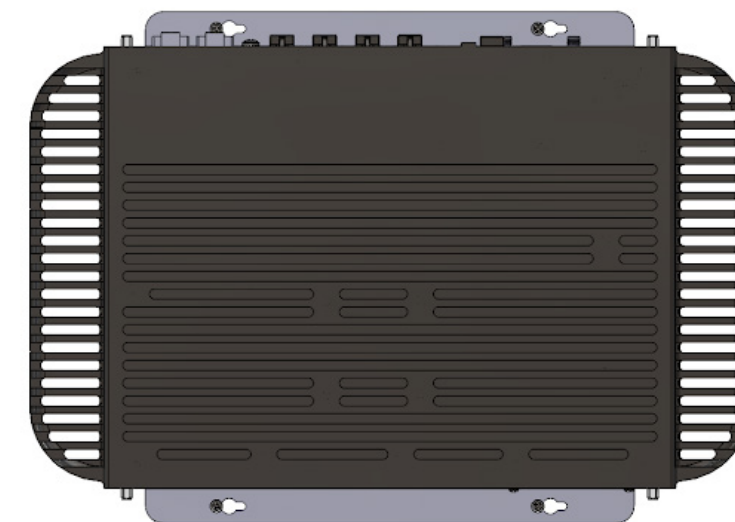

Figure 3
- 3 Attach the wall mount to the wall using four screws that are appropriate for your wall (sheet metal and drywall inserts are included with the wall mount kit). Ensure that the side fins run vertically, as shown in **Figure 3**.